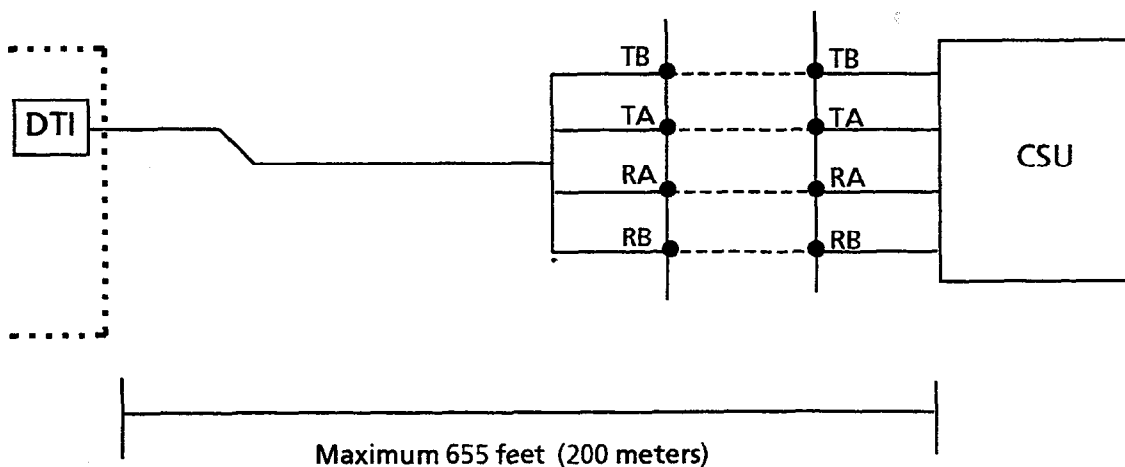

Figure 2-71 MDF Trunk Connection
1. Connect the T1/FT1 trunk to the MDF. Refer to Figure 2-71 - MDF Trunk Connection.
2. Connect this cable from the MDF to the DTI-F( )-10 KTU or DTI-F(A)-20 KTU by twisted-pair cable. Refer to Figure 2-71 - MDF Trunk Connection.